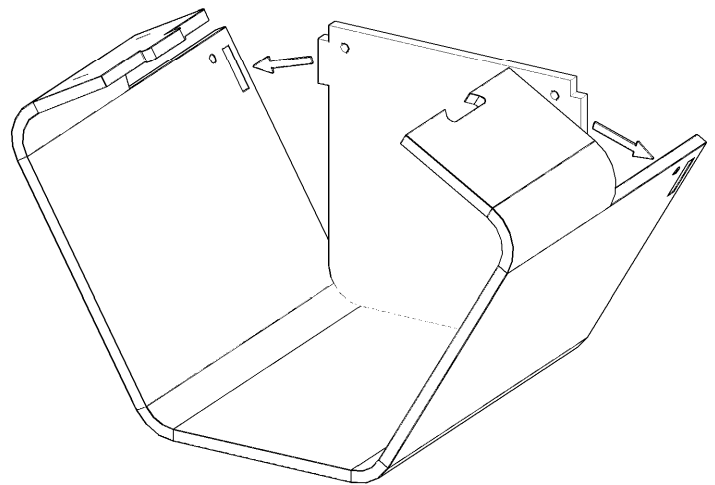

Figure 2
2. Fold the PET Surround inward and insert the side extrusions into the corresponding side holes of the PET surround, as shown in Figure 2.